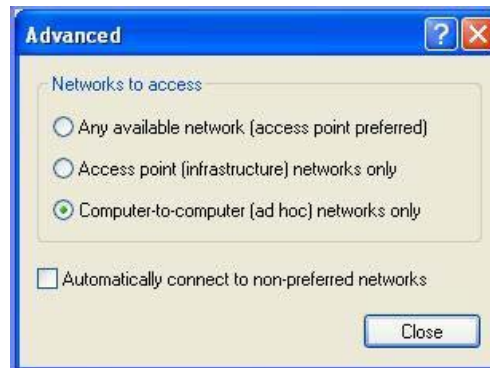

Figure 3-8, Advanced
5. When the Advanced screen (Figure 3-8) appears, select the Computer-To-Computer option, followed by the Close button.